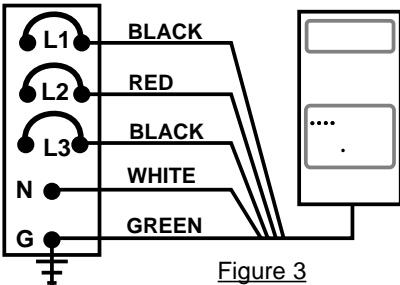

Figure 3
7. Connect the phase leads to the proper connectors in the PG Series. Then connect them to the appropriate breaker connections in the electric panel. NOTE: For HIGH LEG DELTA, make certain that the high leg is connected to the designated position in the PG Series.(Refer to Figure 3)